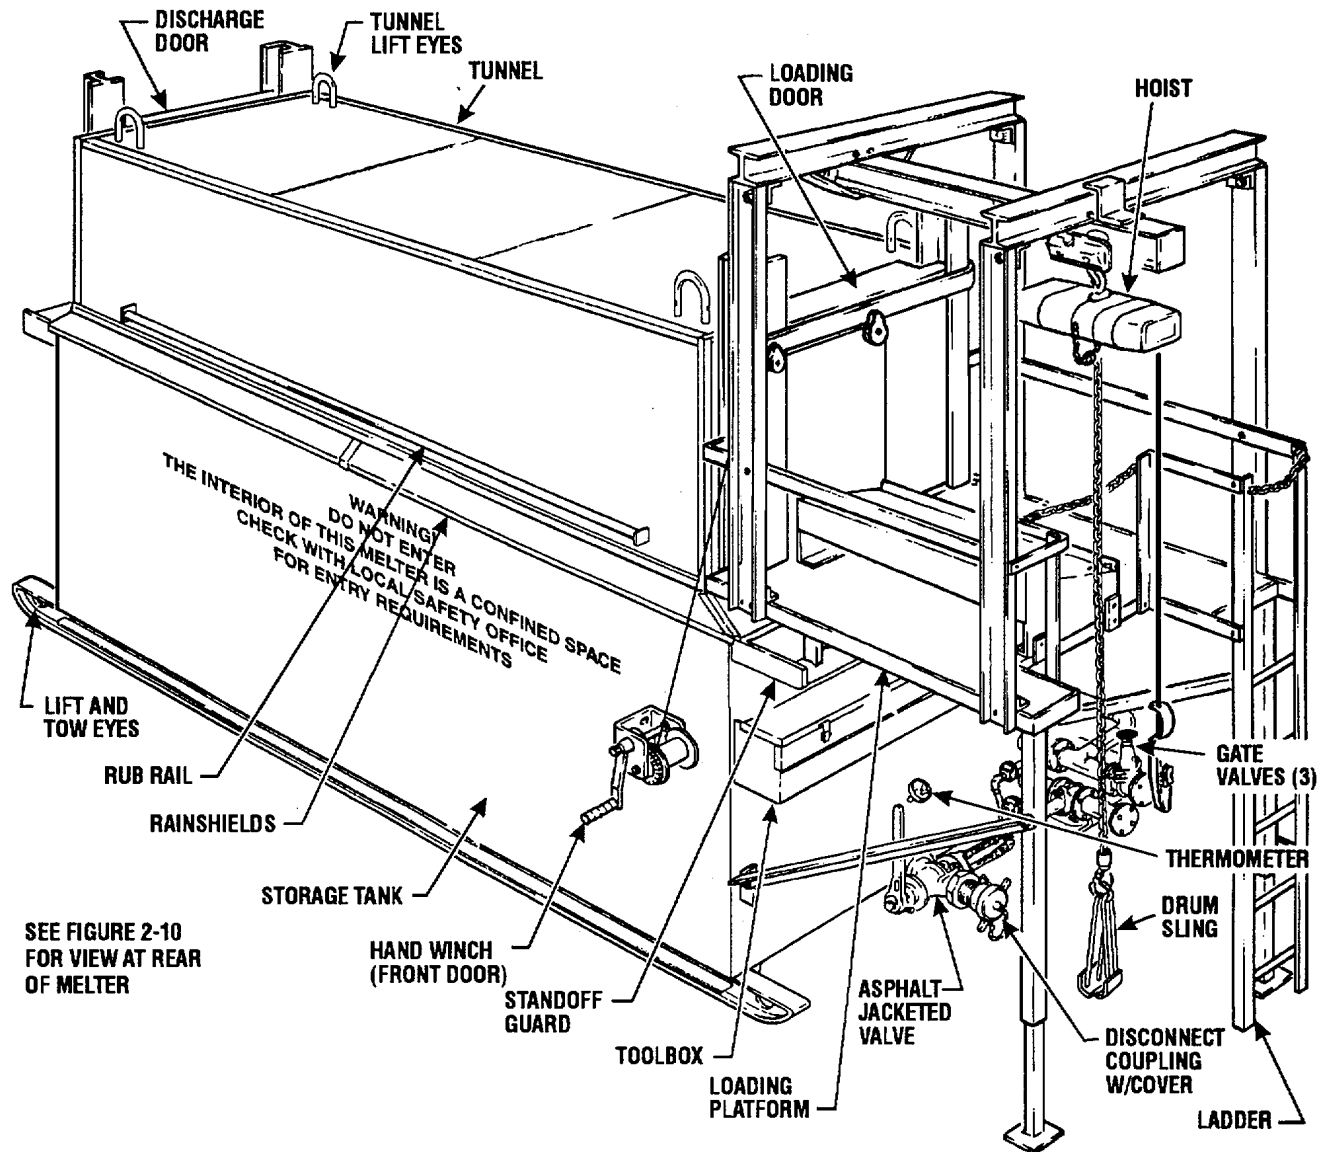

Figure 1-1. Asphalt Melter, Model STMD-3000A, right front, three-quarter view.
a. This manual provides instructions for operation and service and lists repair parts for the Chausse Model STMD-3000A, asphalt de-drumming melter, manufactured by Chausse Manufacturing Co., Inc. The unit consists of a de-drumming tunnel and a 3000 gallon capacity, heated storage tank. The tunnel is constructed to handle a maximum of six, 55 gallon drums at one time, with a melting rate of 750 gallons per hour of 85-100 penetration asphalt cement. The melted cement can be maintained in the storage tank at pouring temperature (235°F.), and transferred to bulk storage tanks or distributors by means of a separately supplied asphalt pump. Figure 1-1, identifies major components and features of the melter in its basic operating configuration.